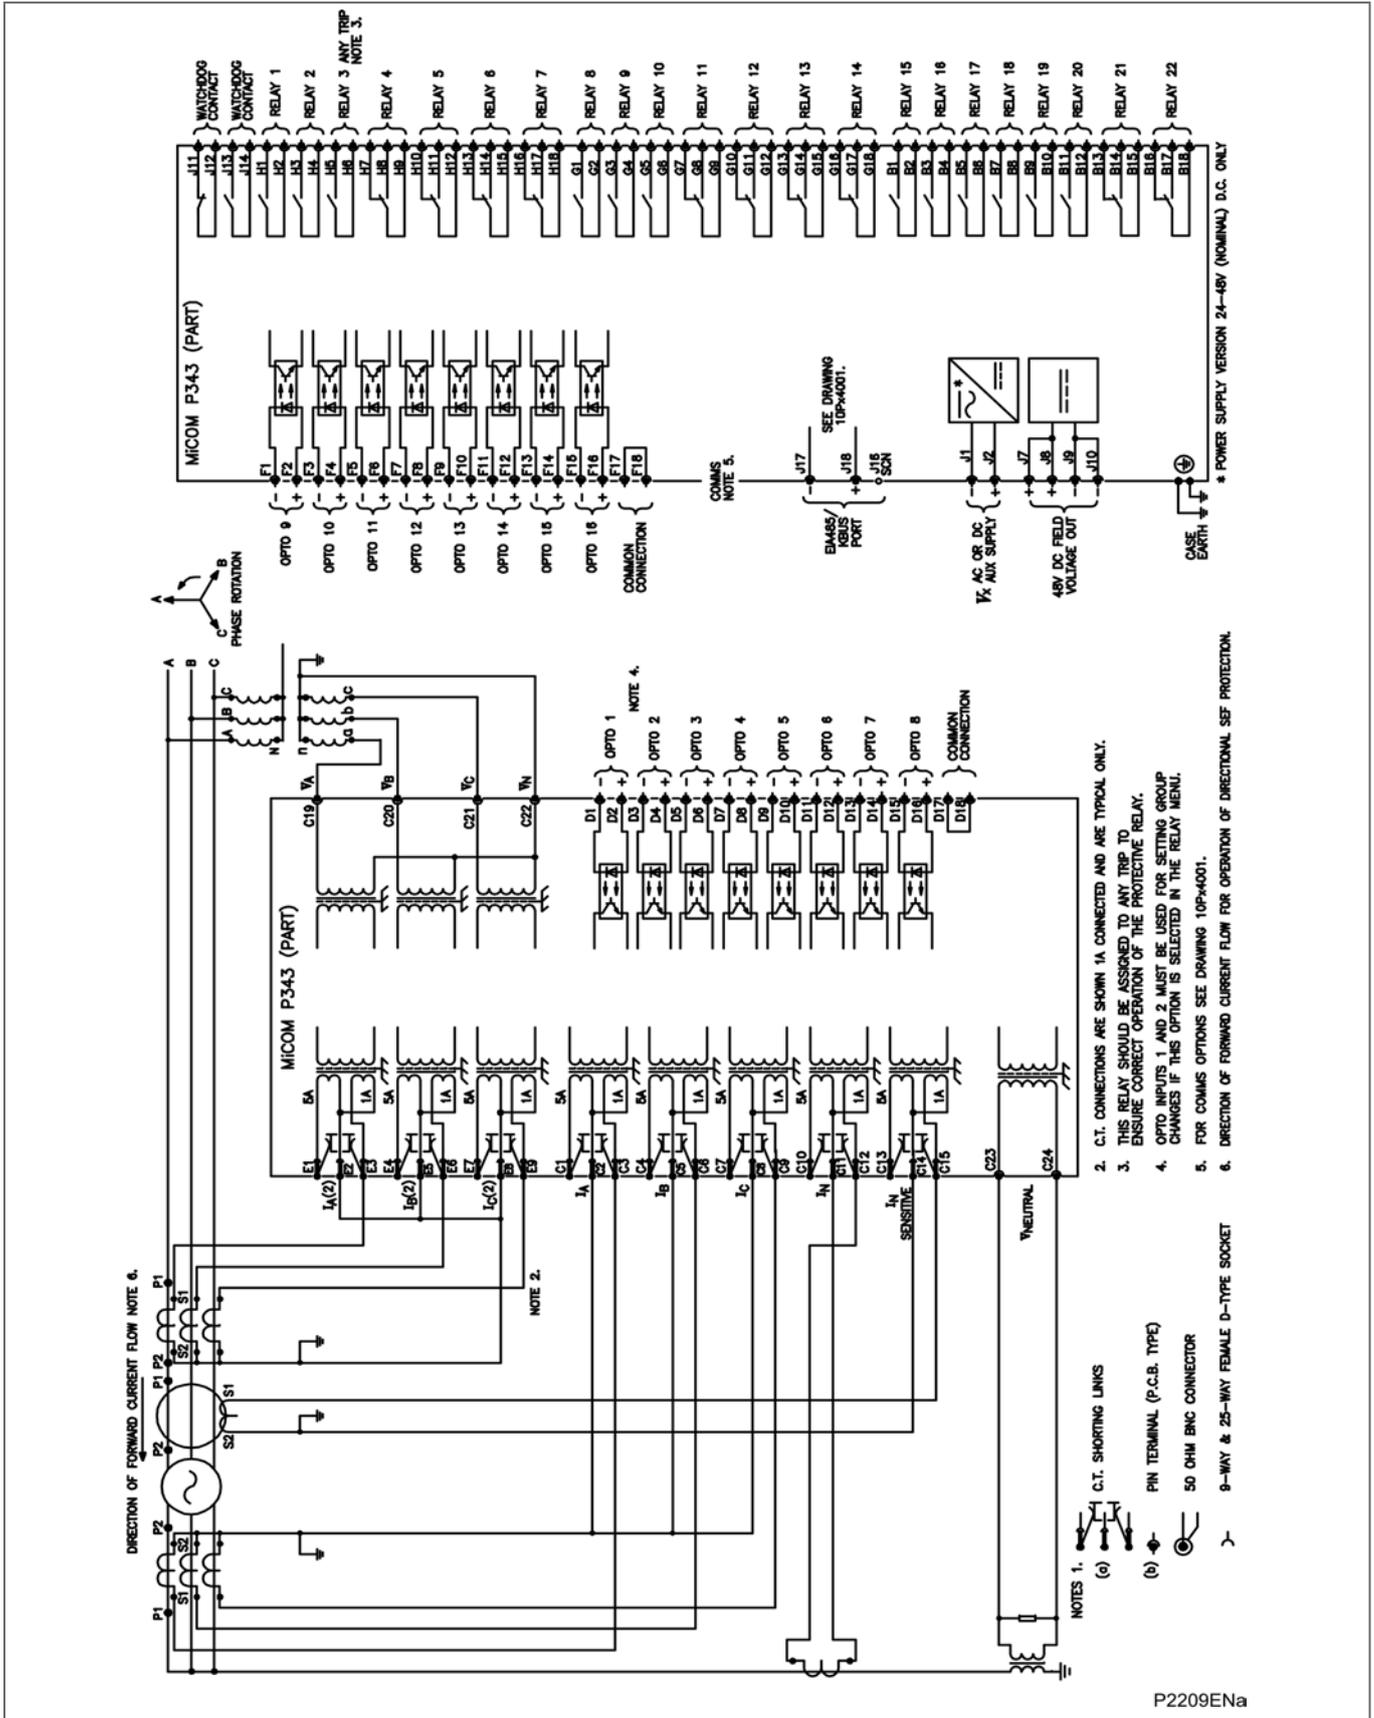

Figure 61 - P343 (60TE) with biased differential (16 I/P & 22 O/P)
- Figure 61 - P343 (60TE) with biased differential (16 I/P & 22 O/P)